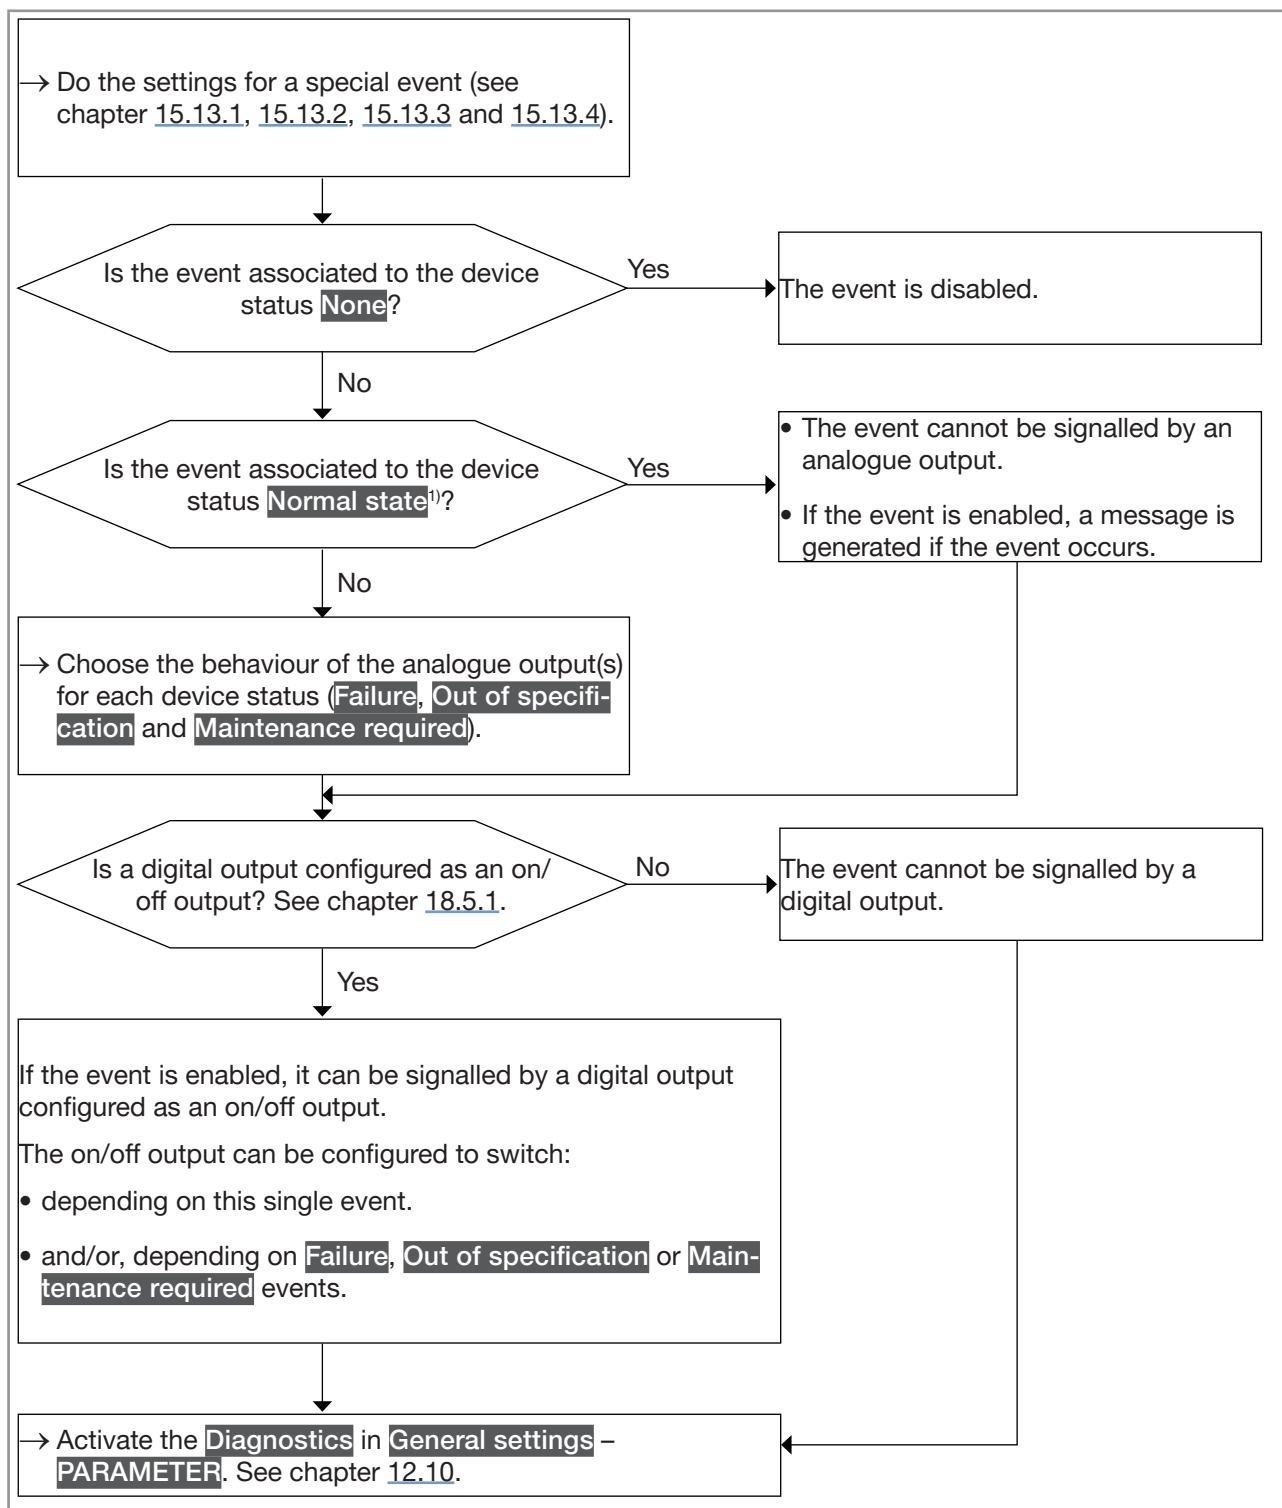

Fig. 63: Flowchart: configuration of the diagnostics
- To be informed if a special event occurs in the process, on the sensor or on the electronics, configure the diagnostics as shown in the flowchart in Fig. 63 on page 230.